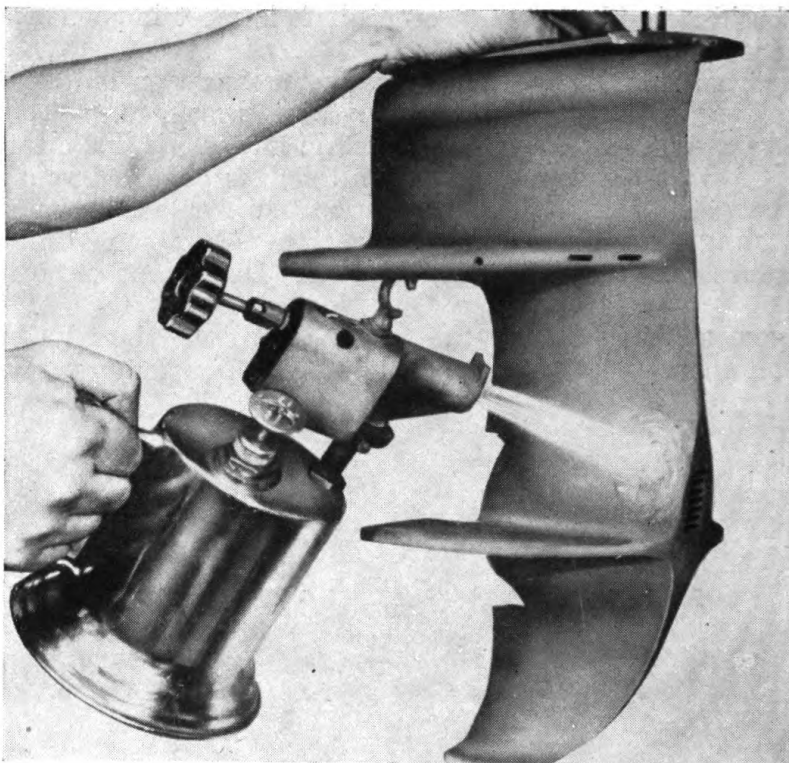

Figure 62. To remove roller-bearing cup, expand housing by heating with a blow torch.
(26) Clean all parts in cleaning solvent. Check each piece minutely for wear or breakage. Check roller bearings for wear, rust marks, or pitted and rusted rollers. Bearings in such condition should be replaced with new parts.
(27) To remove roller-bearing cup from housing, housing is expanded by heating gently with a blow torch at point where bearing cup is fitted into housing. (See fig. 62.) Tapping heated housing with a rawhide hammer will cause cup to drop out.
(28) After all parts have been cleaned and inspected they are reassembled.
(29) Do not use old grease seals; replace them with new ones. After assembling and drawing up screws tightly and evenly, pack housing with new grease. See greasing instructions in paragraph 17b.